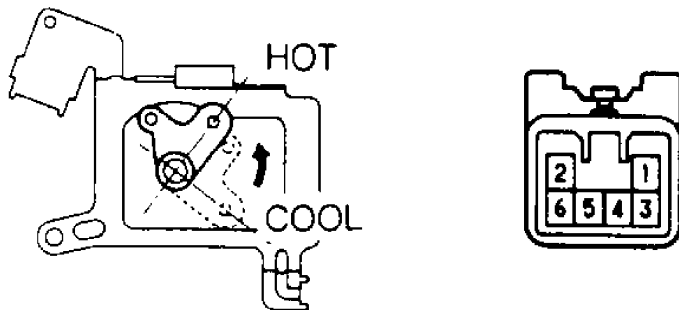

Fig. 5: Testing Air Mix Control Servomotor
1) Disconnect air mix control servomotor wiring harness connector. Apply battery voltage to terminal No. 2, and ground terminal No. 6. See Fig. 5. Ensure arm rotates smoothly from hot to cool position.
Measure resistance between terminals No. 1 and 3. See Fig. 5. Reading should be about 6000 ohms. Set arm to cool position. While rotating arm to hot position, measure resistance between terminals No. 1 and 4. Resistance should decrease from about 4800 ohms to 1200 ohms. If readings are not as specified, replace air mix control servomotor.
Disconnect power transistor connector. Connect battery, 120-ohm resistor and 3.4-watt light bulb to terminals as shown. See Fig. 5. If light bulb does not come on, replace power transistor.